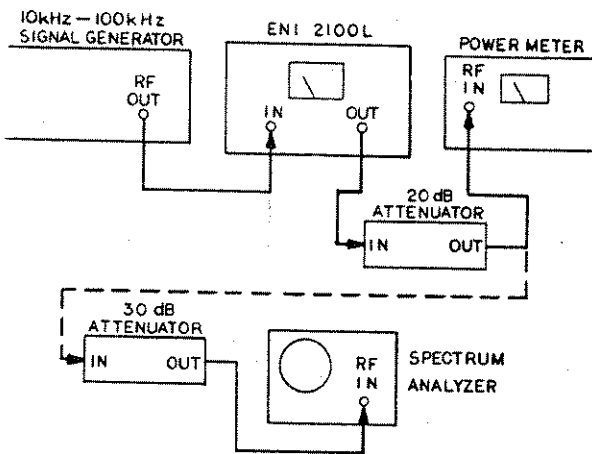

Figure 4-3.
- 1) Connect the Equipment as shown in Figure 4-3, then proceed as follows: